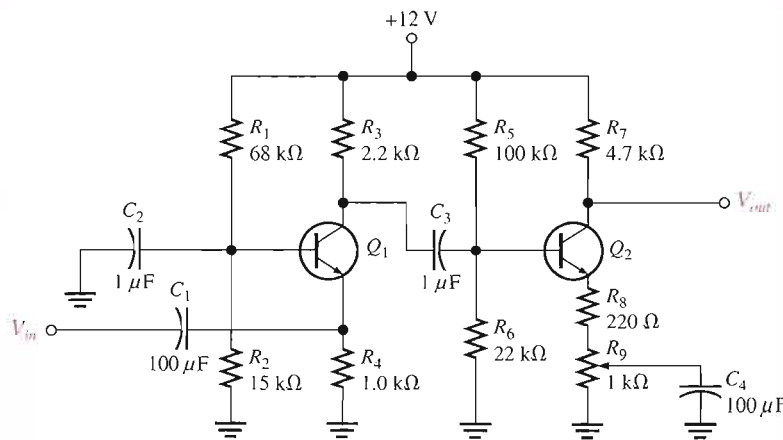

FIGURE 8–28
A self-biased **common-gate** amplifier is shown in Figure 8–24. The gate is connected directly to ground. The input signal is applied at the source terminal through C_1 . The output is coupled through C_2 from the drain terminal.
Step 3: Check the input signal at the gate of Q_1 and the output signal at the drain of Q_2 with an oscilloscope. The results are shown in Figure 8–27. The measured output voltage has a peak value of 226 mV. The expected typical peak output voltage is
► **FIGURE 8–27**
Step 4: Trace the signal from the output toward the input to determine the fault. Figure 8–27 shows the oscilloscope displays of the measured signal voltages. The voltage at the gate of Q_2 is 106 mV peak, as expected ($14.14 \text{ mV} \times 7.5 = 106 \text{ mV}$). This signal is properly coupled from the drain of Q_1 . Therefore, the problem lies in the second stage. From the oscilloscope displays, the gain of Q_2 is much lower than it should be ($213 \text{ mV}/100 \text{ mV} = 2.13$ instead of 7.5).
2. Assume that C_2 in the amplifier of Figure 8–26 opened. What symptoms would indicate this failure?
A schematic of the BJT (bipolar junction transistor) amplifier currently used in the public address/audio paging system is shown in Figure 8–28. (See the system application in Chapter 6.)
The basic design for one stage of a MOSFET amplifier using a 2N3797 is shown in Figure 8–29. You are to evaluate it to determine if it can be used in a multi-stage amplifier to provide the same voltage gain as the bipolar version.
- Using the data sheet in Figure 8–30, determine the minimum and maximum dc drain-to-source voltages. Remember, for a zero-biased D-MOSFET, the drain current equals I_{DSS} .
- Using the data sheet in Figure 8–30, determine the minimum and maximum voltage gains.
The breadboard test bench for the MOSFET amplifier is shown in Figure 8–31. Two stages have been wired on the connector board for testing. The two 2N3797 transistors in the circuit have been randomly picked from a large selection of the devices.
- Measurements taken on the breadboarded circuit are shown in Figure 8–32 where each set of measurements is made with different transistors. That is, the first set of measurements is
- Can I_{DSS} and g_m be determined for each transistor from the measurements in Figure 8–32? If so, determine the
- Determine the gain of each stage for each set of measurements in Figure 8–32.
- Assuming the maximum theoretical gain can be achieved for V_{DS} centered at 6 V by careful selection of the MOSFETs for maximum g_m and typical I_{DSS} , how many stages will be required to match the maximum gain of the BJT amplifier in Figure 8–28? Remember to take into account the attenuation, if any, of the input circuit.
▲ FIGURE 8–31